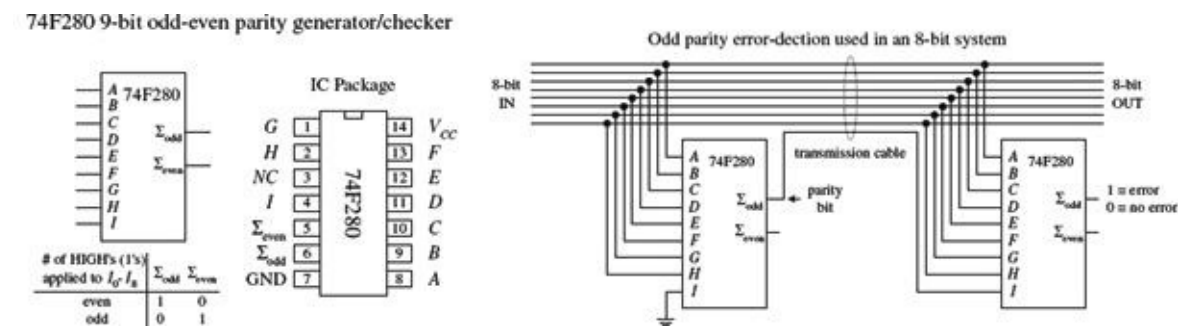

FIGURE 12.52
If you want to avoid building parity generators and checkers from scratch, use a parity generator/checker IC like the 74F280 9-bit odd-even parity generator/checker shown in Fig. 12.52. To make a complete error-detection system, two 74F280s are used: one acts as the parity generator, and the other acts as the parity checker. The generator's inputs *A* through *H* are connected to the eight data lines of the transmitting portion of the circuit. The ninth input (*I*) is grounded when the device is used as a generator. If you want to create an odd-parity generator, you tap the Σ_{odd} output; for even parity, you tap Σ_{even} . The 74F280 checker taps the main line at the receiving end and also accepts the parity bit line at input *I*. Figure 12.52 shows an odd-parity error-detection system used with an 8-bit system. If an error occurs, a high (1) is generated at the Σ_{odd} output.